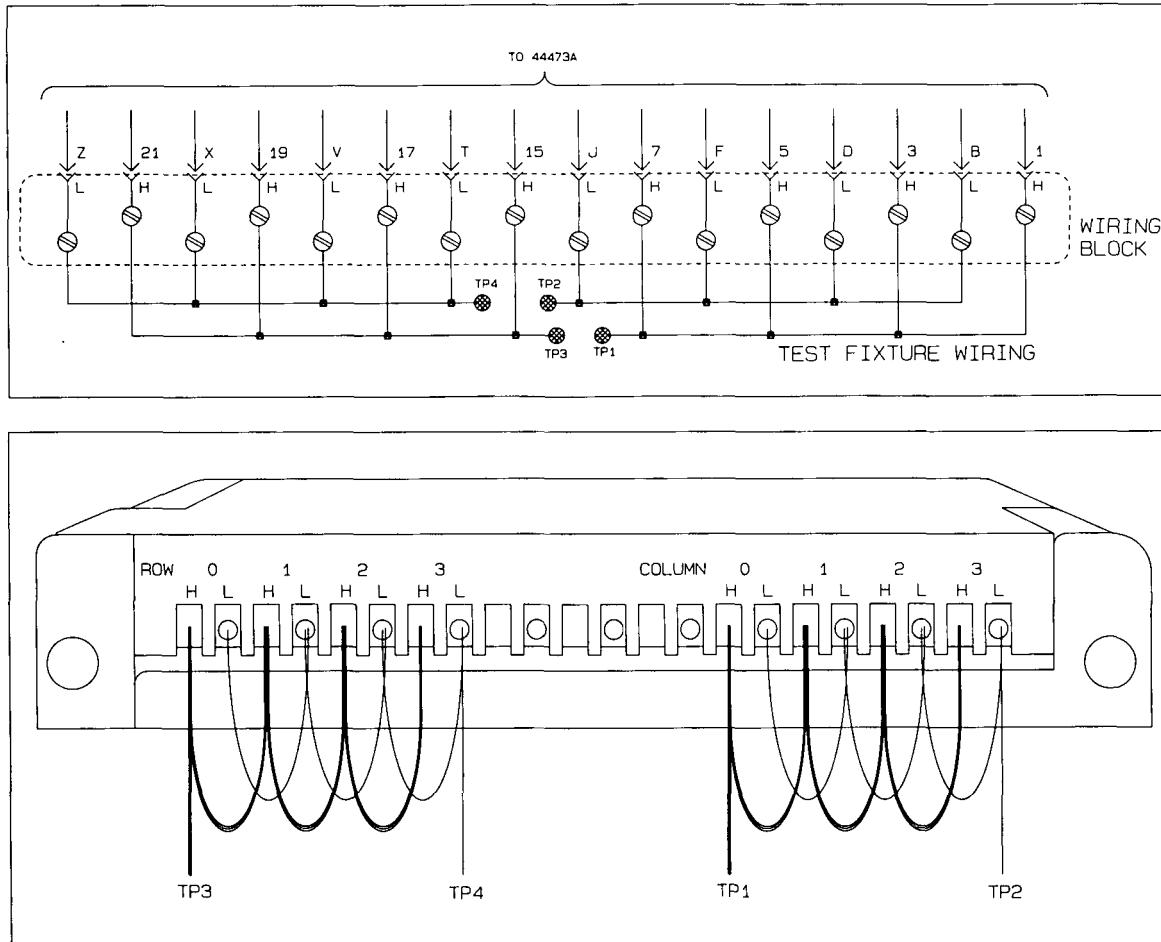

Figure 11-3 44473A Test Fixture
- a. A test fixture is available from Hewlett-Packard (HP part number 03488-66501). The advantages of this fixture are (1) it requires no assembly and (2) it can be used to test the 44470A, the 44471A, the 44473A and the 44474A plug-in cards without modification.
- b. A test fixture can be constructed by configuring an HP 44483A removable wiring block as shown in Figure 11-3. This particular test fixture can only be used to test the 44473A.